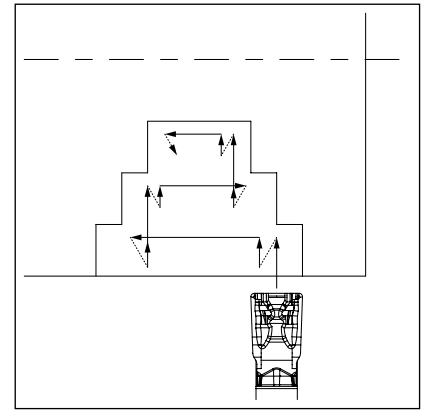

Fig. 3
1. When widening the groove width (Refer to Fig. 3), apply the »Step Turning«.